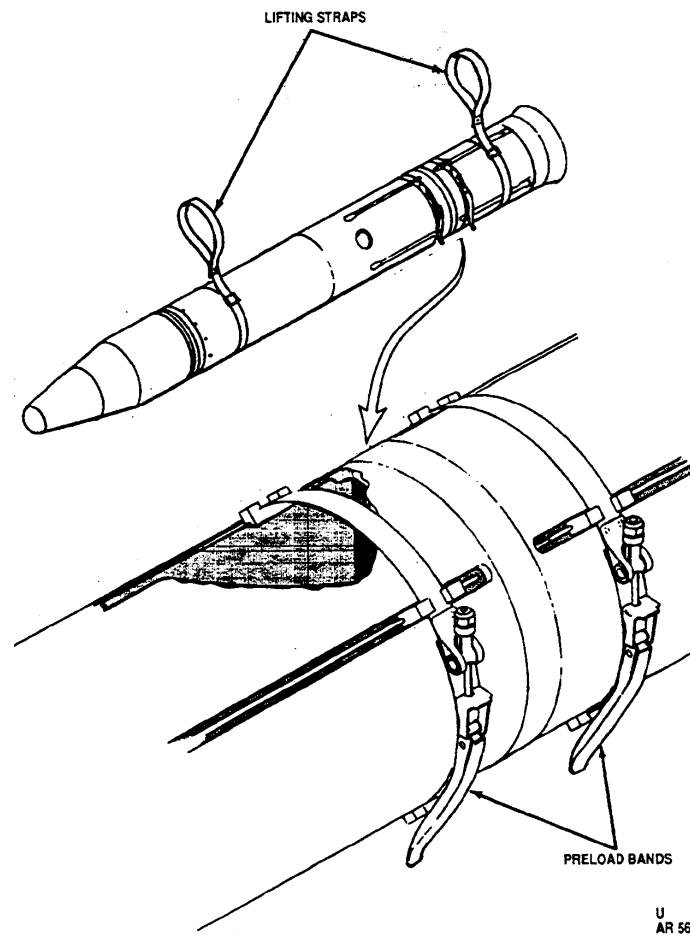

Figure 3-12. Preload Bands and Lifting Straps.
- f. Using two people and lifting straps provided on projectile, remove projectile from container by lifting it up and to the rear (fig. 3-12). The projectile may be placed on top of the open container and cover at a 90 degree angle to the container length.